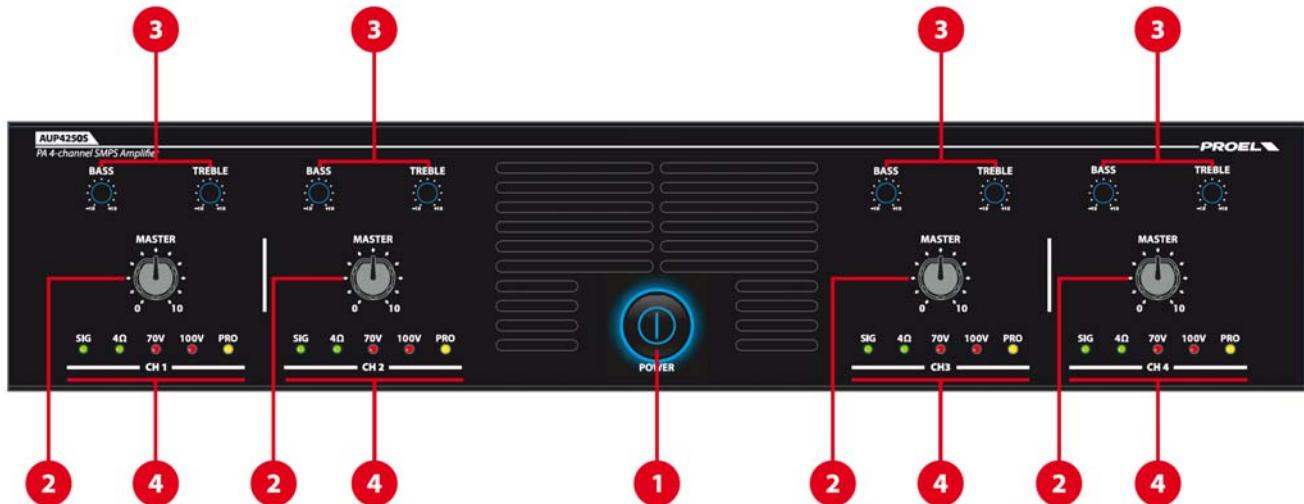

fig.1
The corresponding green Led on the front panel (**Fig. 1, Ref. 4**) lights up.
The corresponding red Led on the front panel (**Fig. 1, Ref. 4**) lights up.
Each channel will respond to its own pitch controls (**Fig. 1, Ref.3**) and Master volume (**Fig. 1, Ref. 2**).
Each channel will respond to its own pitch controls (**Fig. 1, Ref.3**) and Master
- CH3&CH4 SELECTOR on DUAL:** volume (**Fig. 1, Ref. 2**).